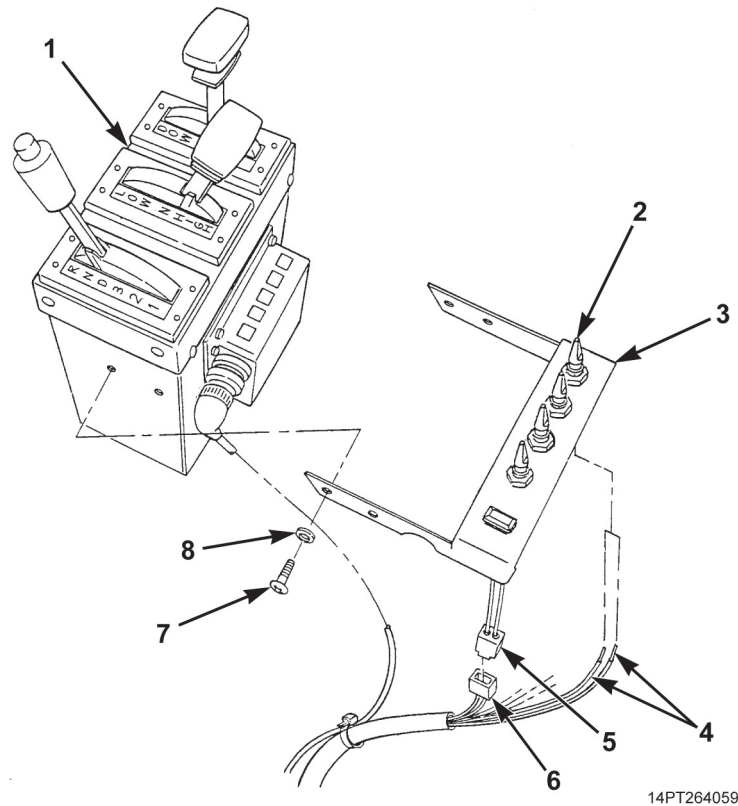

Figure 3. MCS Control Unit Installation.
1. Connect four wiring harness leads (Figure 3, Item 4) to toggle switches (Figure 3, Item 2).
2. Connect wiring harness connector (Figure 3, Item 6) to indicator light connector (Figure 3, Item 5).
3. Install MCS control unit (Figure 3, Item 3) on shift tower (Figure 3, Item 1) with four washers (Figure 3, Item 8) and screws (Figure 3, Item 7).